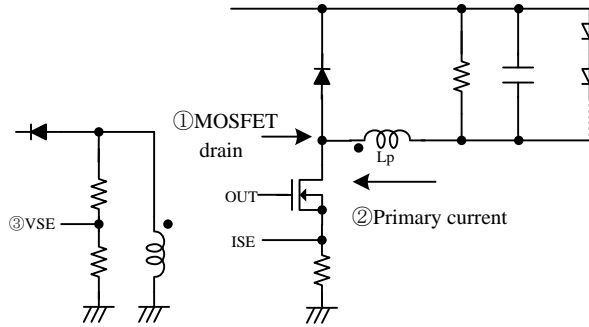

Figure 1.4 Circuit diagram
Figure 1.4 shows FET Drain voltage, primary current and secondary current waveform during FET on and off. VSE signal is resistance-divided voltage of auxiliary winding output. Drain voltage waveform of FET and VSE waveform are same polarity and similar. As LED current (output current) is the average of secondary current, it is shown by equation (6).